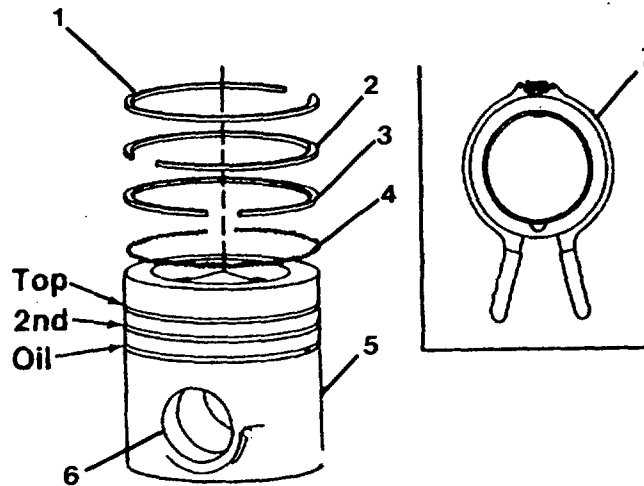

FIGURE 4-71. Oil Ring Expander.
- The gap in the oil ring expander (4, FIG. 4-71) must be turned 180 degrees opposite the gap on the oil ring (3) or the rings and piston will be damaged.
- Do not align the gap of a ring (1, 2, 3) with a piston pin bore (6) or the ring will break and damage the piston and cylinder liner.